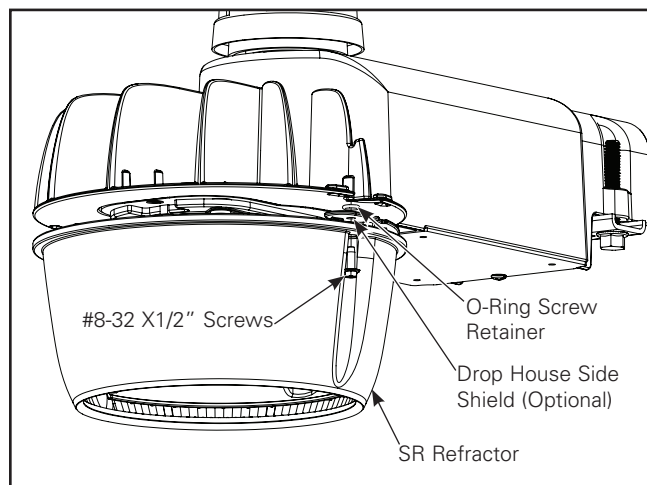

Figure 13.
3. Install SR refractor in the die-cast housing in the two side mounting locations. (Figure 13.)